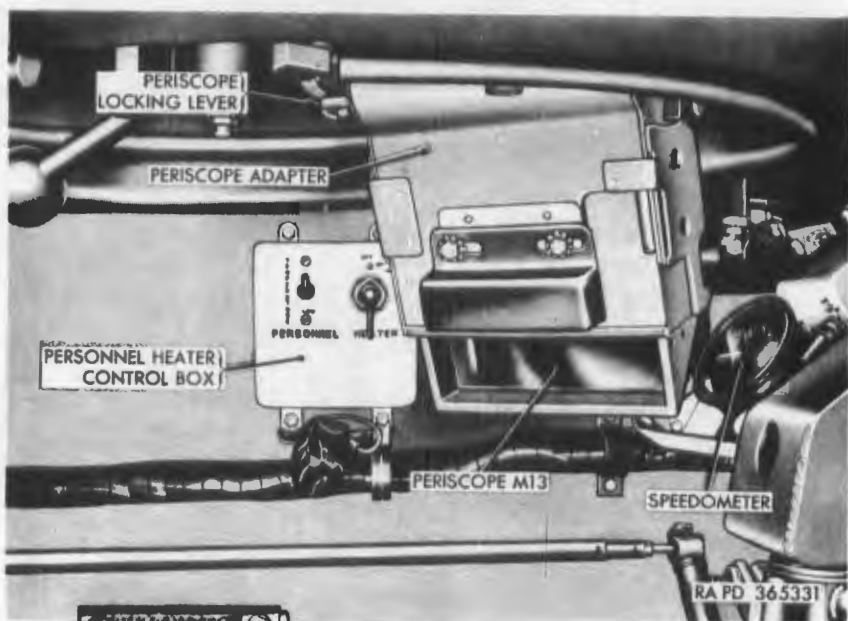

Figure 21. Periscope M13—installed view.
The periscope M13 (fig. 21) or M13B1 is used by the driver and commander while operating under combat conditions during daylight hours. The periscope M13 or M13B1 is retained in the driver's or commander's hatch cover by an adapter. The driver's periscope is stowed in the periscope stowage box mounted on the hull roof directly behind the driver. The commander's periscope is stowed in the stowage box mounted on the front slope plate directly in front of the commander's position. The driver's periscope adapter is stowed in the periscope M19 stowage box when the periscope M19 is installed in the driver's hatch cover.
a. General. The periscope M13 or M13B1 is mounted in the periscope adapter (fig. 21) by inserting the periscope in the adapter and tightening the locking knob on the rear of the periscope.